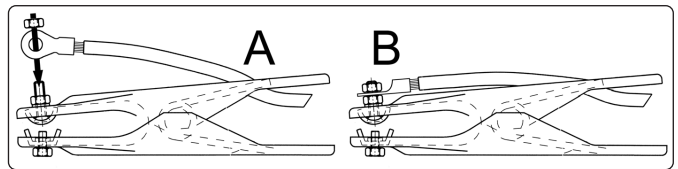

fig.3
- 4.3. **ASSEMBLING THE EARTH CLAMP:** (Refer to fig.3) Feed the eyelet on the end of the earth lead through the hole in the clamp arm as shown in fig.3A.